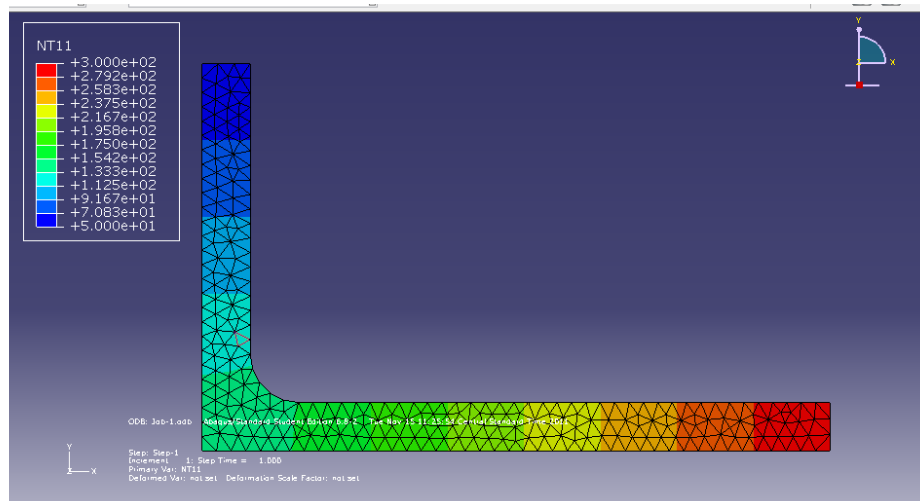

Figure 19 Temperature K
- Select the contour plot button again if needed to give temperature results as shown in Figure 19